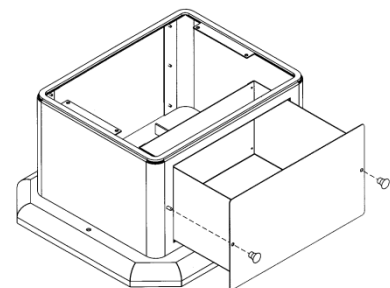

FIGURE 24
- Periodically remove and empty ash bin (see Figure 24) by unscrewing the two knobs on the front of the pedestal below the ash lip. Dispose of ashes properly. (See **"ASH REMOVAL"** above)